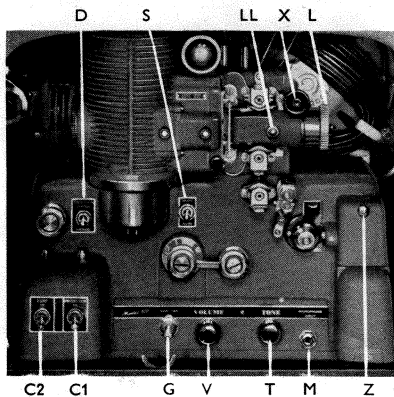

Figure 5
The small case door in front of the projection lens must be opened. Turn on the projector switch, C1, Figure 5, and the lamp switch, C2, Figure 5.
If the electrical connections are correctly made, the projector mechanism should now operate and a beam of light should be projected on the screen, provided that the clutch control X, Figure 5, is turned to the extreme clockwise position.
With the projector operating and the lamp turned on, loosen lens locking screw LL, Figures 5 and 16 by turning to the left and slide the lens, L, forward or backward until the outlines of the aperture or frame are sharply defined. To sharpen further the focus, revolve the lens first in one direction then in the other, relocking the lens when sharp focus is obtained.
Now turn off the projector and turn on the amplifier switch G, Figures 5 and 15. Allow about one minute for the valves to heat, then move the volume control V, Figures 5 and 15, in a clockwise direction until a hiss is heard in the speaker. At the same time, light should be seen from behind the exciter lamp cover Z, Figures 5 and 18.
8. Is the direction switch D, Figure 5, set for forward operation?
With the amplifier valves warmed and the film volume control at zero, start the projector using switch C1, Figure 5. Immediately after the motor has started, turn on the lamp switch C2, Figure 5.
As the title appears on the screen, carefully revolve the lens in one direction or the other until the title or the first picture appears in sharp focus. Lock in focus with screw LL, Figure 5.
The tone control T, Figures 5 and 15, is also operated similarly to a tone control on a radio receiver. By means of this control, frequency range can be compensated for in accordance with the acoustical conditions under which the equipment is being used.